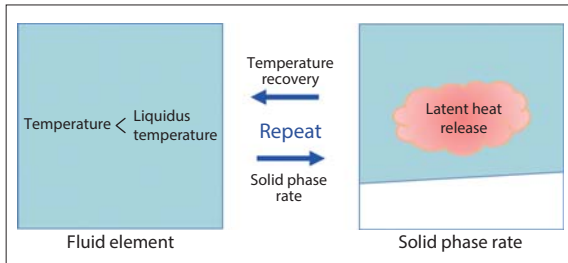

Figure 1: Temperature recovery method
- As shown in Figure 1, solve temperature of fluid element, and if temperature is below liquidus temperature (which matches solidus temperature for pure matter such as pure water), calculate solid phase rate from latent heat and specific heat.